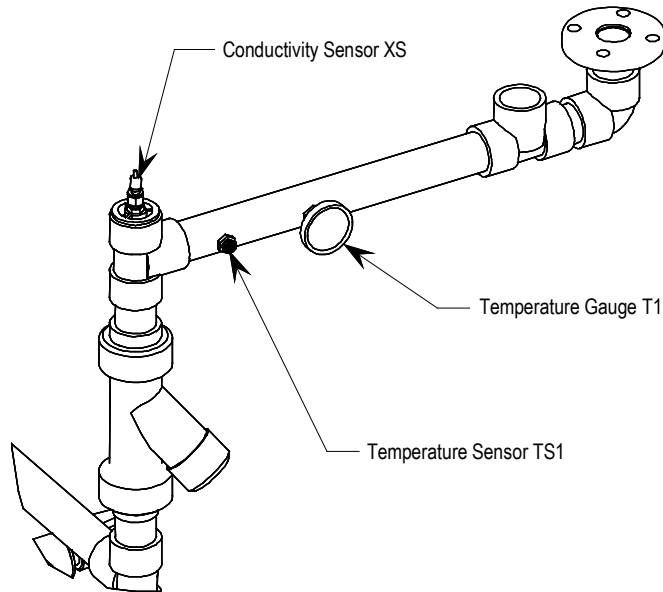

Figure 4.59 – Temperature and Conductivity Sensors
Temperature is indicated by the temperature gauge (T1) as shown in Figure 4.59.
An in-line conductivity sensor (XS) as shown in Figure 4.59 measures the fluid conductivity. The sensor sends a signal to a meter mounted on the pump cabinet door. Two conductivity switches are part of the meter. They are set at conductivity of $1\mu\text{S}/\text{cm}^3$ for the annunciation warning and $2\mu\text{S}/\text{cm}^3$ for the trip value.
This temperature sensor (TS1), shown in Figure 4.59, triggers the drive to shut down when the fluid temperature entering the converter cabinet is too high. This situation could occur if the air cooling of the heat exchanger is cut off due to fan failure, plugging of the air paths, or failure of the thermostatic valve.